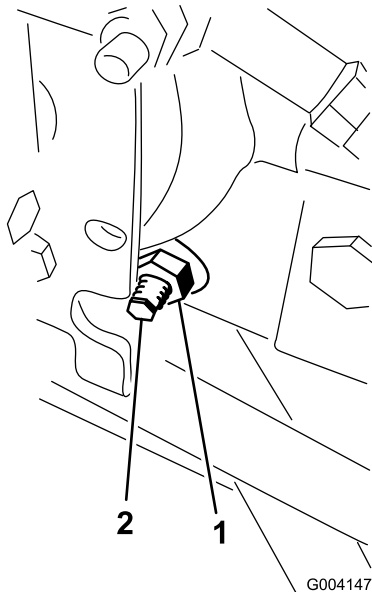

Figure 92
3. On the right side of the hydrostat, loosen the locknut on the traction-adjustment cam (Figure 92).